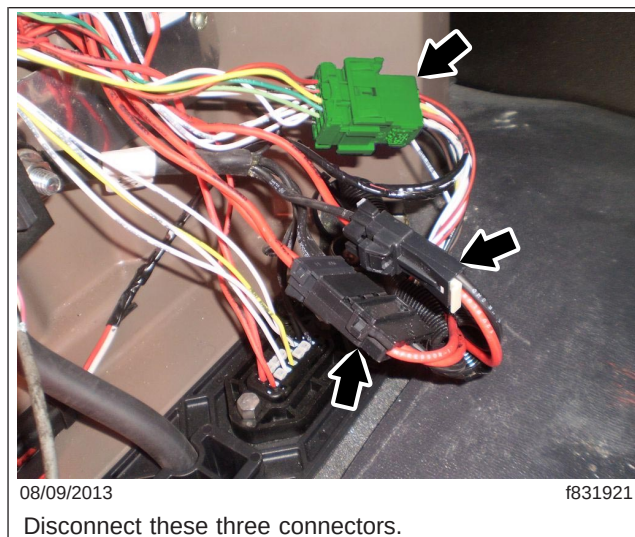

Fig. 7, Electrical Center, Vehicles with DDC O/I
6. On vehicles with DDC O/I, disconnect the three connectors on the harness coming from the unit at the ParkSmart electrical center. See Fig. 7.
21. On vehicles with DDC O/I, connect the three connectors on the harness coming from the unit at the ParkSmart electrical center. See Fig. 7.